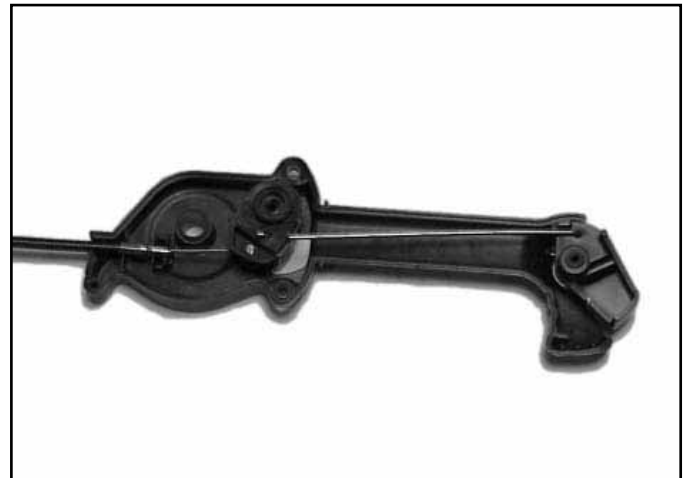

Fig 022
4. Hold the Quick Stick so the three screws holding the handle halves are facing up. Remove the three screws and lift off the top handle half (Fig. 022).